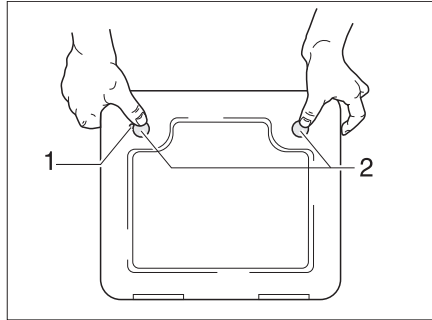

Fig. 354 Flap for the toilet cassette
- Open the flap for the cassette on the outside of the vehicle. Insert the key into the locking cylinder of the push-button lock (Fig. 354,1) and turn a quarter turn.
- Press both push-button locks (Fig. 354,2) simultaneously with your thumb and open the flap for the cassette.